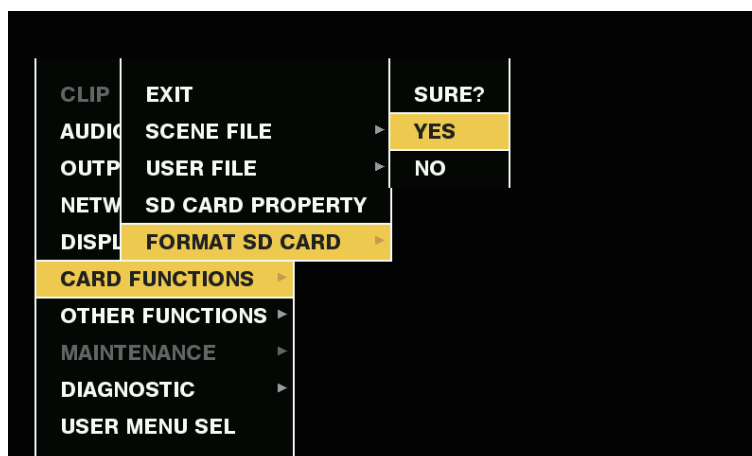

Fig. 1
**2 Select [YES] in the confirmation screen and press the control stick (or <SEL/PUSH SET> dial button).** (Fig. 1)